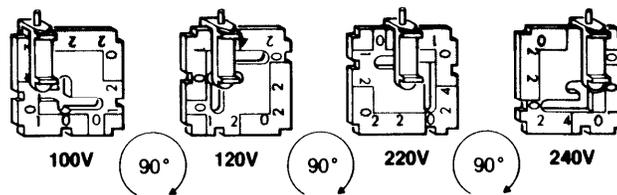

fig. 10 -- Voltage Selector Card Orientation;
- b** Using the indicator pin orient the selector card so that the desired voltage is readable at the bottom. Orient the indicator pin to point up when the desired voltage is readable at bottom (note that when indicator pin is fixed, successive voltages are selected by rotating the card 90° clockwise). See fig. 10 for voltage selector orientation.